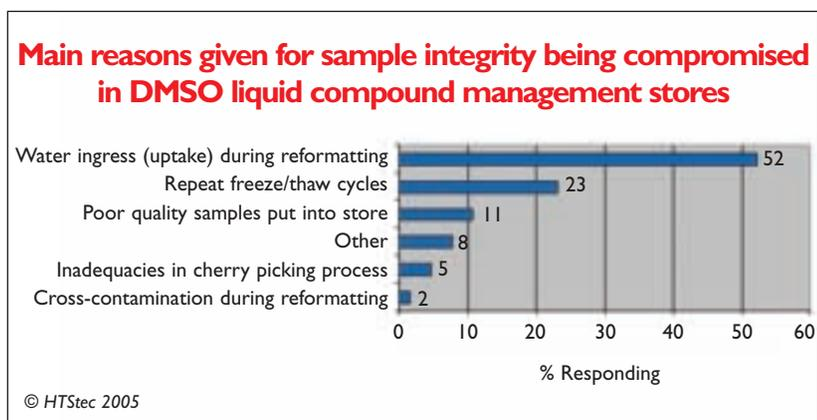

Figure 3
HTStec's survey of CM groups revealed that water uptake (ingress) during the reformatting process was seen as the main reason for sample integrity being compromised in DMSO liquid stores, ie during the transfer of aliquots of compound from a library stock into an assay plate (Figure 3). Repeat freeze/thaw cycles were ranked the second main cause for loss of sample integrity. Cross-contamination between wells can also be regarded to compromise compound integrity. Implementation of quality control (QC) measures to assess sample integrity has rapidly become a major priority for compound management groups.